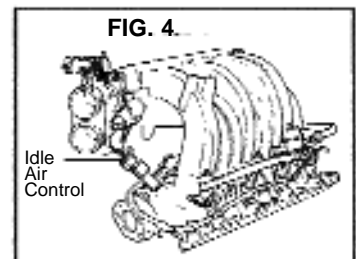

FIG. 4
6. Locate the IAC motor on the throttle body or port fuel injection unit (Figs. 4 and 5).